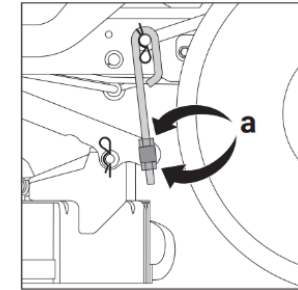
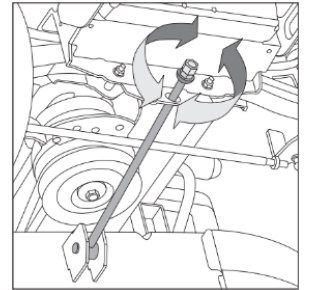

Fig. 11A
Fig. 11B
4. **Turn the adjustment nuts up to raise or down to lower the left side of the cutting deck** (Fig. 11A) (Fig. 11B)